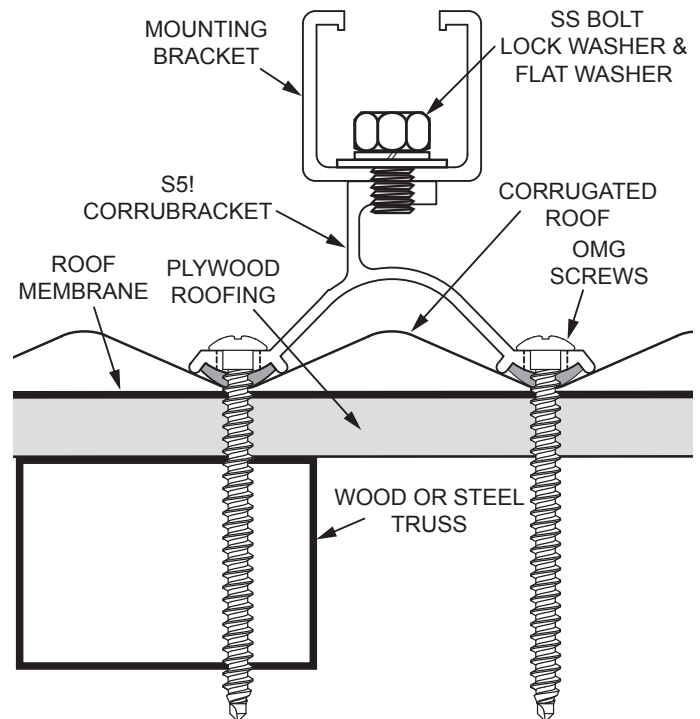

Figure 5.
- Install the solar collector mounting bracket to the corrugated metal roof bracket with the included M10-1.50 x 1" SS hex bolt. See Figure 5.